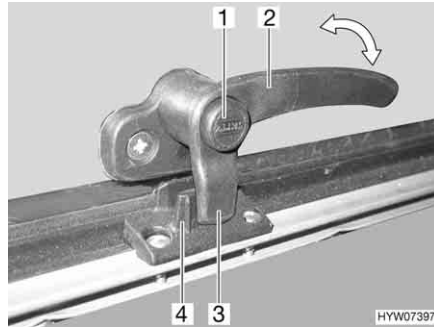
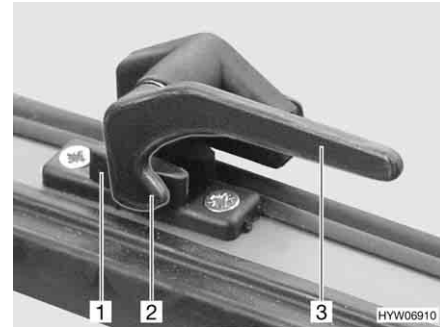

Fig. 92 Catch lever with safety knob in "closed" position
Fig. 93 Catch lever in "closed" position
- Press and hold the security button (Fig. 92,1), if present.
- Turn the catch lever (Fig. 92,2 or Fig. 93,3) a quarter turn towards the centre of the window.
- Turn the catch lever (Fig. 92,2 or Fig. 93,3) a quarter turn towards the window frame. The locking catch (Fig. 92,3 or Fig. 93,2) on the catch lever is entirely on the inner side of the window catch (Fig. 92,4 or Fig. 93,1).
- Firmly closed (Fig. 92 and Fig. 93)